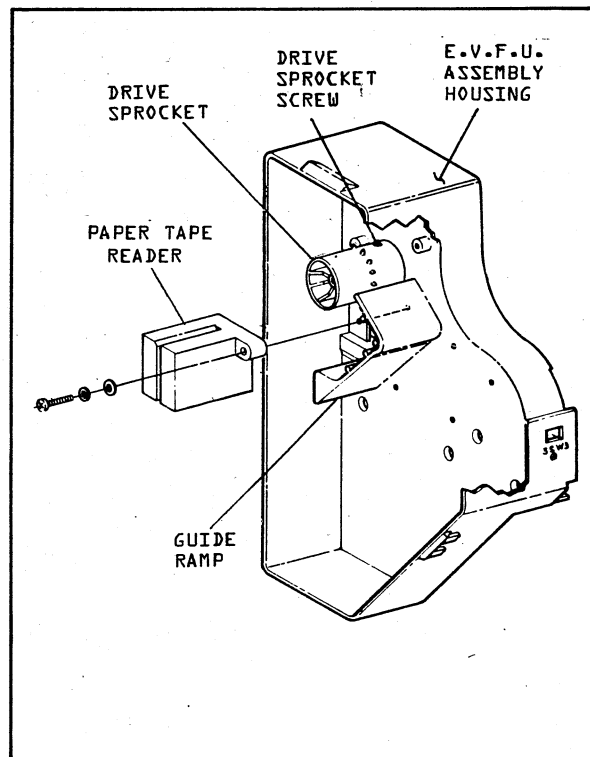

FIGURE 5-1 DRIVE SPROCKET ADJUSTMENT
2. Remove the two screws attaching the paper tape reader to the EVFU assembly housing. (See Figure 5-1).
8. Move the sprocket in or out as required so that the format tape will just ride against the guide ramp (located beneath the paper tape reader). Tighten the sprocket retaining screw. See Figure 5-1.